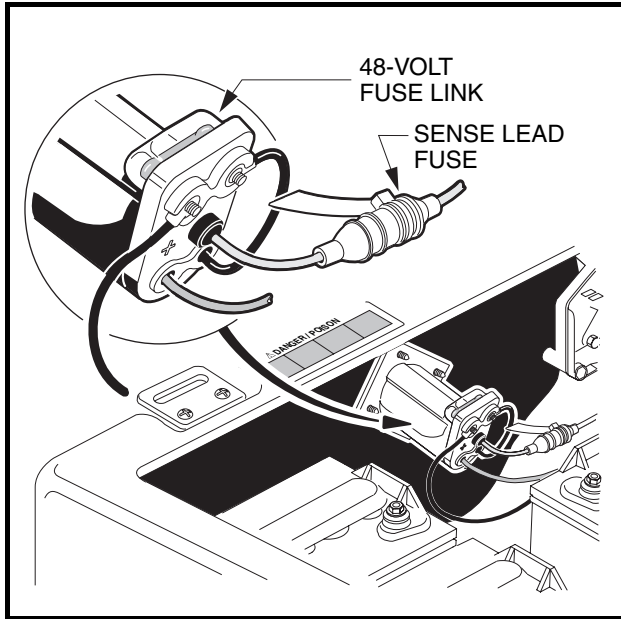

Figure 30 Receptacle Fuse Link
**Villager vehicles:** As an additional feature to protect the batteries and charging circuit from an overload, the electric vehicle is equipped with a receptacle fuse link (**Figure 30**). If the charger does not come on when the vehicle is placed on charge, visually inspect the fuse link. **See following WARNING.**
- Never modify wiring to bypass the gray sense lead fuse (**Figure 30**).